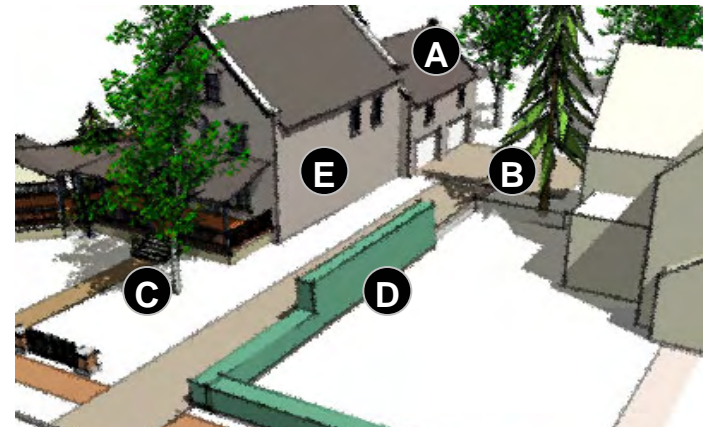

Fig. 3: Utilitarian uses such as garages should be kept near the rear of the home whenever possible.
In most cases within the historic neighborhoods, garages and similar accessory buildings should be set back far from the road and placed behind the residence whenever possible to minimize visibility from the street. Garage bay doors should be located and oriented so that they are not immediately visible or directly facing the street if possible. **(A) in Fig. 3.**
Residential properties should require no more than one driveway or curb cut entering the site. This driveway should be limited to one-lane wide at the front of the site, however may be wider in back to accommodate parking or garage access. **(B) in Figure 3.** Driveways which access existing historic service alleys in the rear are recommended whenever possible.
New residential construction or additions should also provide grass, trees, shrubs and similar landscaping in keeping with the neighborhood, particularly in the front and highly visible areas of the property. **(C) in Figure 3.**
Chain link fences and similar utilitarian barriers are not recommended except in the rear yard of the property or in areas not directly visible from adjoining properties. Hedges, painted board, picket fences, stone walls or similar designs in keeping with historic neighborhoods should be used in these visible areas instead. **(D) in Figure 3.**
Large areas of blank wall along the street facades should be avoided, or should be reserved for the sides or rear of the home. **(E) in Figure 3.**